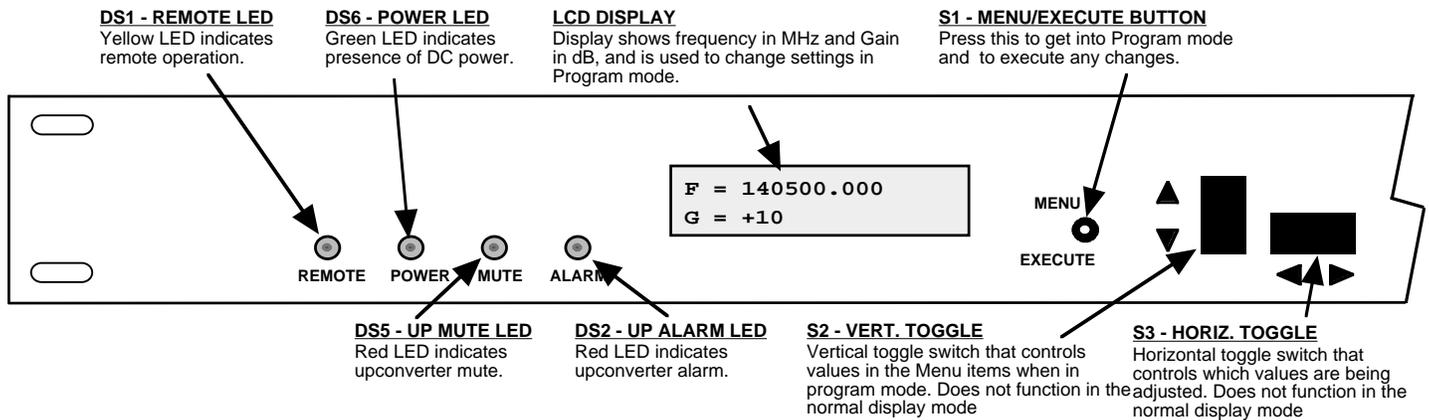

FIGURE 2.3 2015-145 Front Panel Controls and Indicators
2.3 Front Panel Controls and Indicators - Figure 2.3 shows the front panel controls and indicators.
7. Be sure DS6 (green, DC Power) is on and DS2 (red, Alarm) is off (Figure 2.3).